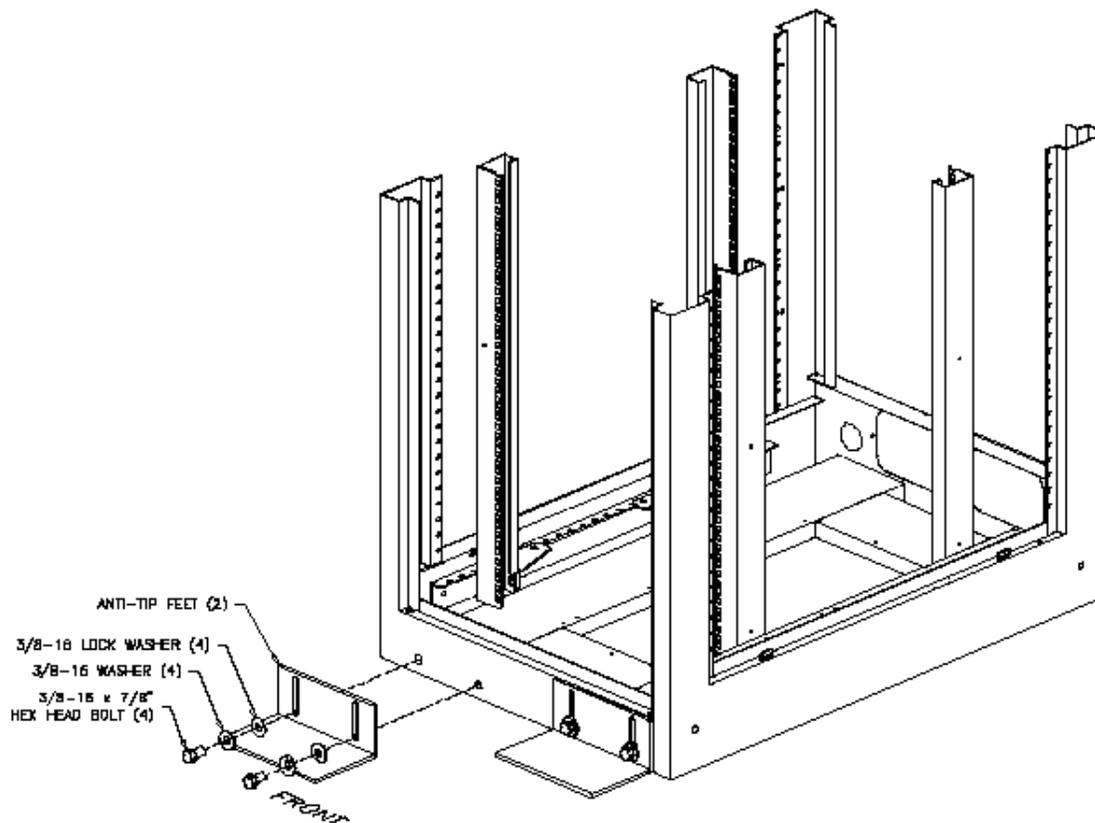

Figure 2. Anti-tip feet.
2. To mount the anti-tip feet, install the $\frac{3}{8}$ -16 x $\frac{7}{8}$ " hex-head bolt using the $\frac{3}{8}$ -16 flat washer and the $\frac{3}{8}$ -16 lock washer (see Figure 2).